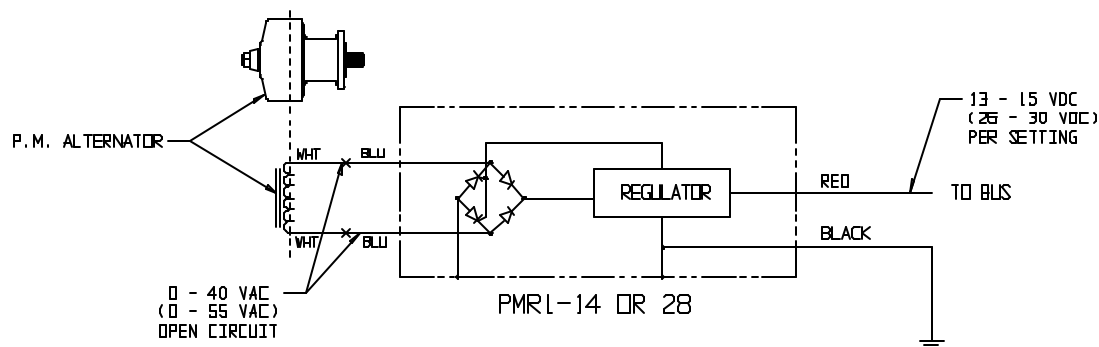

Figure 1
Refer to Figure 1. All of B&C's "PM" alternators incorporate fixed stators around which a permanent magnet (PM) housing revolves to generate electrical energy. Since the winding is stationary, there are no brushes required to transfer electrical energy. This makes the alternators extremely reliable. Continuity of the winding may be checked with an ohmmeter to detect any broken wires in the leads or winding. Also check the drive coupling to make sure that the magnetic housing rotates with the engine crankshaft. If the housing rotates and the wiring is continuous there must be A.C. output. The A.C. output voltage varies with RPM as indicated in the figure.